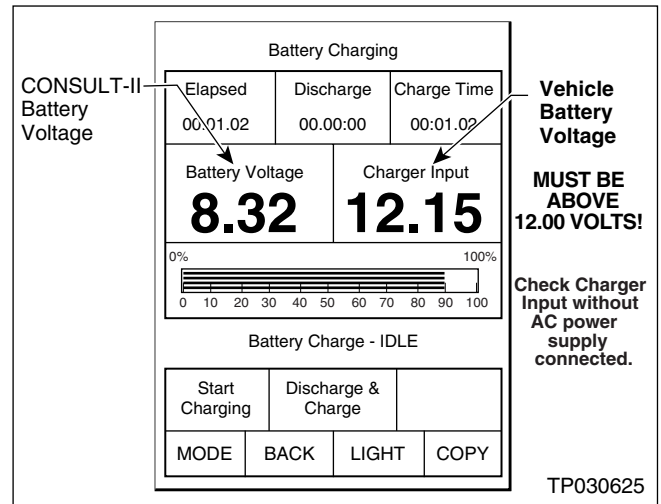

Figure 5
3. Check the CONSULT-II's "Charger Input" reading (see Figure 5).